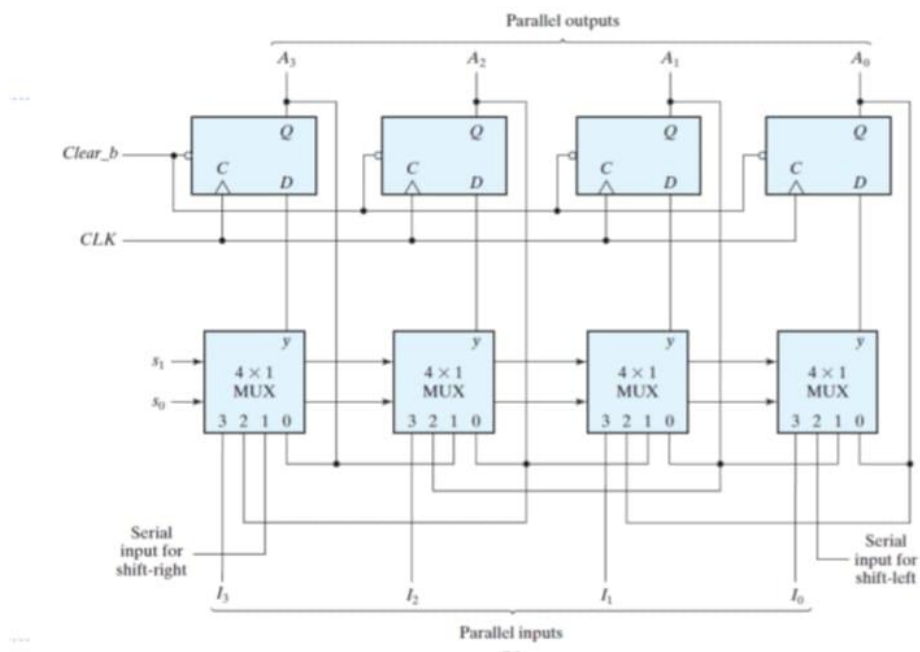

Figure 2.1.1 Universal Shift Register Diagram
The above truth table for Figure 2.1.1
The design of the Figure 2.1.1 is as follows
- The design is same as that of Figure 2.1.1, but
The working of Universal Shift Register from the figure 2.1.1 is as follows
- From the above figure 2.1.1, selected pins the mode of operation of the universal shift register. Serial input shifts the data towards the right and left and stores the data within the register.